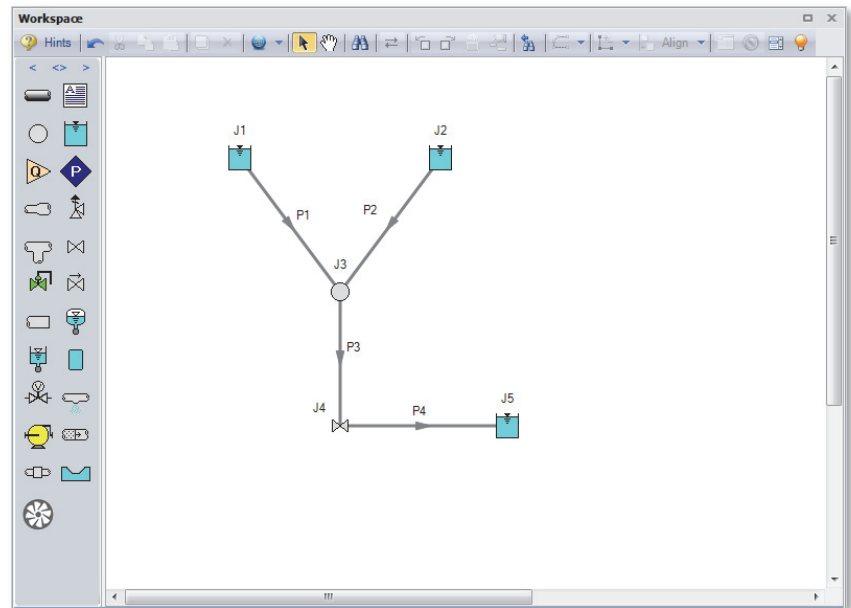

Figure 2.5f Valve closure model with all pipes and junctions placed
- **Activate the Pipe Drawing Tool again**, position the mouse pointer on the J2 Reservoir, then press and hold the left mouse button. Stretch the pipe across to the J3 Branch, and then release the mouse button. Continue drawing pipes P3 and P4 as indicated in Figure 2.5f. After all the pipes are drawn, all the objects in the model are graphically connected. Save the model by selecting Save in the File menu or by clicking on the diskette button on the Main Toolbar.
As shown in Figure 2.5f, the J1 junction is a Reservoir junction.